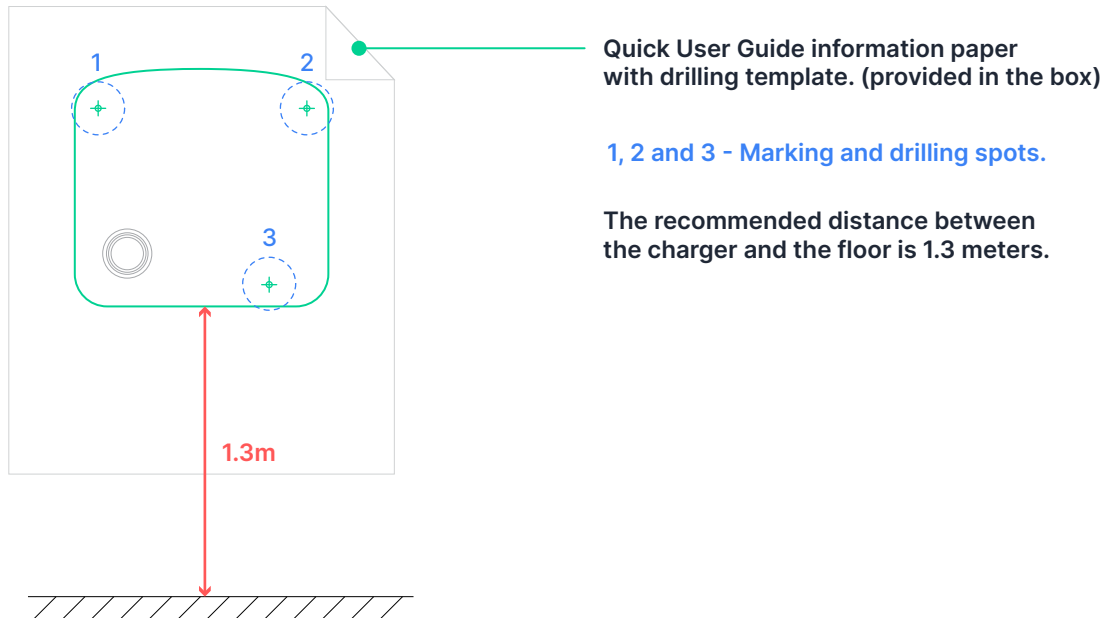

Fig. 4 - Drilling template for the charger's mounting points
4. Mark on the wall the position of the charger's 3 mounting points. For a quick and correct marking of the mounting points please use the provided drilling template. It is recommended to install the charger at 1,3m above the floor. **(Fig. 4 - page 16)**